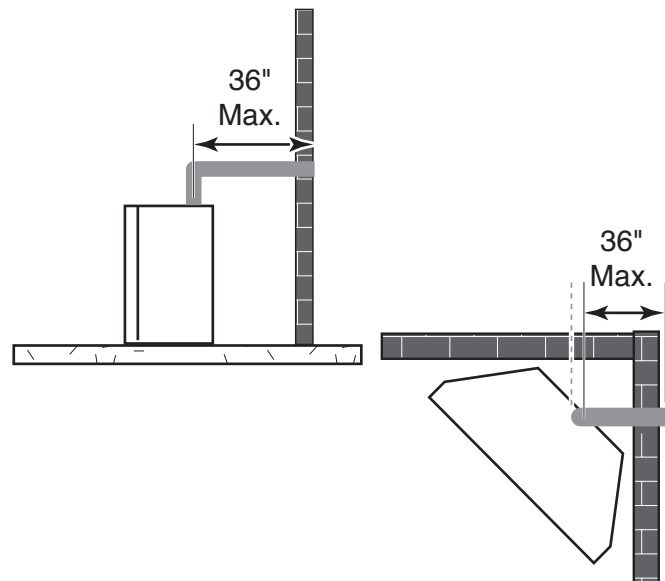

Figure 22 - Maximum Horizontal Run with No Rise
- If a 90° elbow is fitted directly on top of the fireplace flange, the maximum horizontal vent run before the termination or a vertical rise is 36" (914mm). *See Figure 22.*